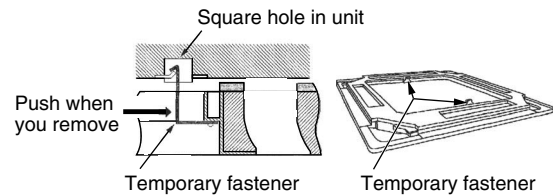
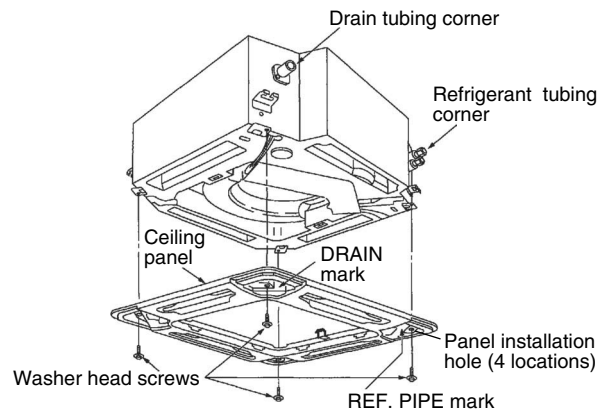

Fig. 9-7
Fig. 9-8
- (1) Insert the temporary fasteners (stainless steel) on the inside of the ceiling panel into the square holes on the unit to temporarily fasten the ceiling panel in place. (Fig. 9-7)
- To remove the ceiling panel, support the ceiling panel while pressing the temporary fasteners toward the outside. (Fig. 9-7)
- (2) Align the panel installation holes and the unit screw holes.
- (3) Tighten the supplied washer head screws at the 4 panel installation locations so that the panel is attached tightly to the unit. (Fig. 9-8)